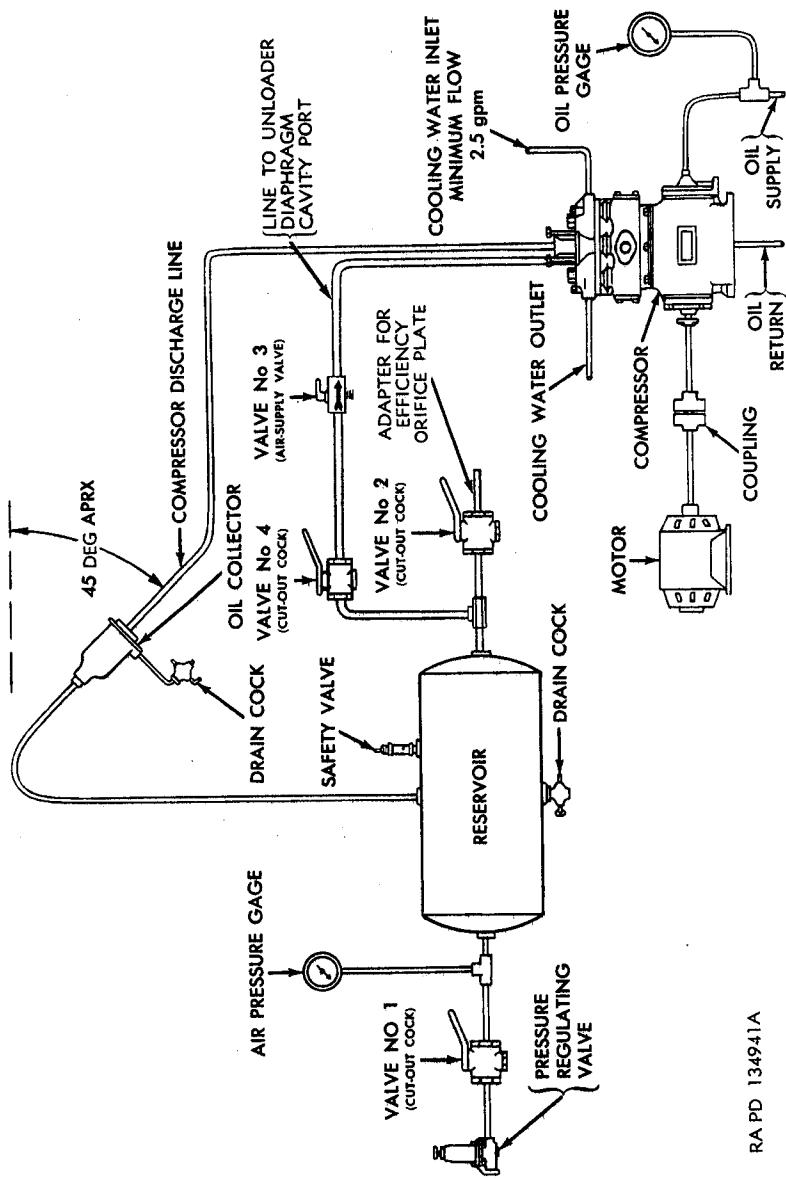

Figure 20. Schematic diagram of test bench for compressors.
a. *General.* In order to test compressors under operating conditions, a certain amount of equipment is necessary for mounting, lubricating, and driving the compressor during test. A schematic arrangement of a test bench is shown in figure 20. Descriptions of all the valves, gages, reservoirs, fittings, etc required for the tests are included in this manual. These parts are readily available to any depot maintenance shop. For engine-lubricated compressors, a flat mounting plate, capable of holding compressor securely and with provision for oil return, must be provided. For self-lubricated compressors, a secure mounting only is necessary. Compressor drive may be direct-connected, as shown in figure 20, or the usual belt and pulley drive. For direct drive, a variable speed, 1,750 rpm motor is used. With belt and pulley drive, the correct compressor speed is obtained by pulley ratio. To test compressors with a rated displacement of $7\frac{1}{4}$ cfm at 1,250 rpm use a motor no smaller than 2 hp and for the 12 cfm compressors use a motor no smaller than 3 hp. Cooling water requirement is a minimum flow of 2.5 gpm. A lubrication system must be provided which can deliver oil under pressure of 30 psi. For self-lubricating compressors, oil pressure must register between 15 and 25 psi. The oil collector must be mounted at an angle as shown in diagram so that oil drain is at lowest point of oil collector (fig. 20).
- (1) Remove air strainer; it is not necessary to uncover any other inlet ports.
- a. Prepare compressor and make test connections (par. 21b and fig. 20). Referring to figure 20, open valve No. 1 and close valves Nos. 2, 3, and 4.
Note. The (cut-out cocks) valves Nos. 1, 2, and 4 (fig. 20) are open when the handle is at right angles to the valve body and closed when the handle is parallel to the body (par. 155). Valve No. 3 (fig. 20) (air supply valve) is open when the handle is parallel to valve body and closed when the handle is at right angles to the body (par. 197). Refer to paragraph 26 for description of functioning of valve port.
- a. Prepare compressor and make test connections (par 21b and fig. 20).
- d. Referring to figure 20, open valve number 1 and close valves numbers 2 and 4 (par. 23a). Run compressor at 1,750 rpm, observe air gage,
and adjust regulating valve to maintain 50 psi in reservoir. Be sure coolant supply (fig. 20) and oil pressure (par. 23b) meet requirements.
b. Prepare compressor and make test connections (par. 21b and fig. 20).
c. Referring to figure 20, install adapter with correct orifice plate (fig. 8) in open end of valve number 2, close valve numbers 1, 3, and 4, and open valve number 2 (par. 23a).
d. Start compressor and be sure that coolant supply (fig. 20) and oil pressure (par. 23b) meet requirements. Run compressor for $\frac{1}{2}$ hour at 1,750 rpm. Pressure maintained in reservoir must be 62 psi or over.
Set valves 1 and 2 (fig. 20) closed, and valve 4 (fig. 20) and (air supply) valve 3 (fig. 20) open (par. 23a), start compressor and watch air gage. When pressure reaches 105 psi, unloader valves should open and stop compression.
If unloader valves function properly and stop compression, close (air supply) valve 3 (fig. 20). Compression should start immediately.
Note. When the (air supply) valve 3 (fig. 20) is closed (i. e., valve handle turned perpendicular to body), it is in its air supply position and air from the reservoir